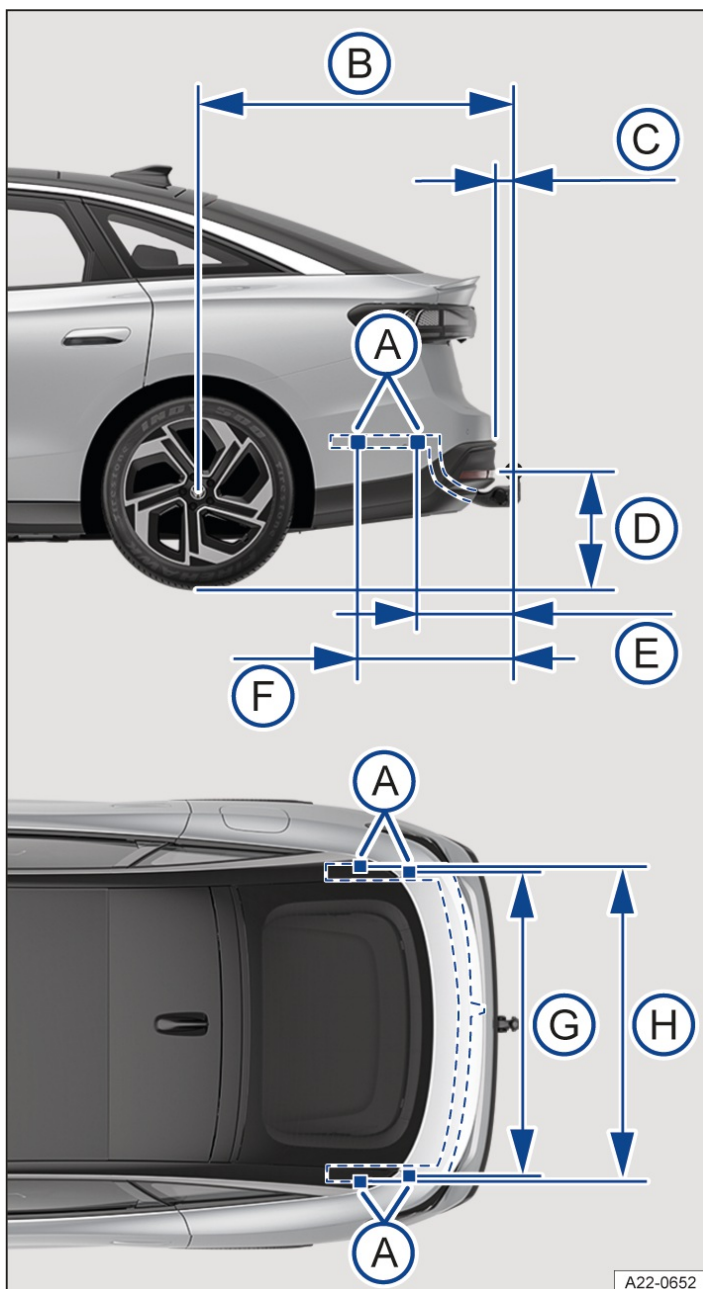

Fig. 1 Dimensions and mounting points for retrofitting a towing bracket.
The distance dimensions → Fig. 1 must be observed in all cases when retrofitting a towing bracket. Always observe the minimum distance given from the middle of the ball coupling to the surface of the road (D). This also applies when the vehicle is fully laden, including maximum drawbar load.
- (A) Attachment points.
- (B) 1157 mm (approx. 45.2 in)
- (C) at least 65 mm (approx. 2.6 in)
- (D) 350 to 420 mm (approx. 13.8 to 16.5 in)
- (E) 361 mm (approx. 14.2 in)
- (F) 581 mm (approx. 22.9 in)
- (G) 994 mm (approx. 39.1 in)
- (H) 998 mm (approx. 39.3 in)